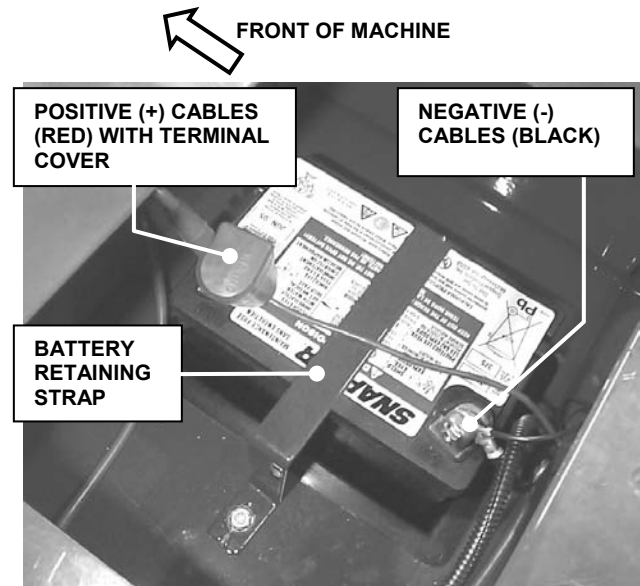

FIGURE 4.4
2. Observe and note cable positions on battery. See Figure 4.4.
4. Remove battery retaining strap hardware and carefully lift battery out of battery tray. See Figure 4.4.
Cables must be connected to battery terminals in the proper position as shown in Figure 4.4. **DO NOT** attempt to charge battery while installed on the Machine. **DO NOT** use "BOOST" chargers on the battery.
**IMPORTANT!** The orientation of the battery and the routing of the battery cables is very important. Install battery carefully as shown in Figure 4.4. Always install positive (red) cables using the terminal cover. DO NOT operate machine until the battery retaining rod has been installed and the battery retained securely.
1. Carefully place battery into battery tray, and replace battery retaining strap (see Figure 4.4). Tighten strap hardware securely.
2. Connect positive (+) cables (red) first, from wiring harness to the positive terminal (+) on battery using bolt and nut. Install terminal cover. See Figure 4.4
3. Connect negative (-) cables (black) last, to negative terminal (-) on battery using bolt and nut. Apply a small amount of grease over terminals to prevent corrosion. See Figure 4.4.